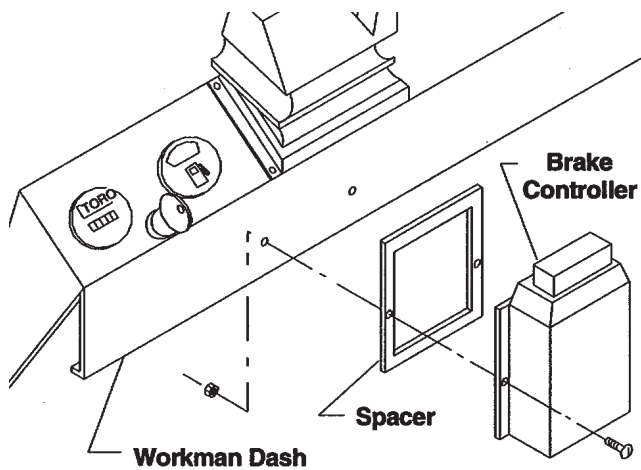

Figure 3
2. Mount brake controller and spacer to dash panel below steering wheel using the two holes provided (Fig. 3).